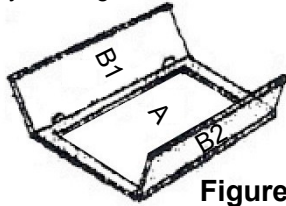
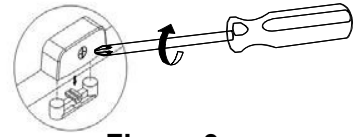
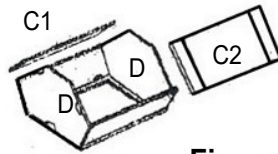

Figure 2
Figure 3
Figure 5
2. Installing the Front Side Panels (B1 & B2): Insert the right and left front side panels into the grooves of face frame (A) and align the cam lock connectors (Figure 2). Lock the cam lock with a screwdriver by turning the screw 180° clockwise (Figure 3)
4. Installing the Rear Side Panels B-2 (Figure 5) Position the rear side panels (C1 & C2) so that the panel connectors align to the top panel (D), bottom panel (D), and front side panels (B1 & B2). Gently work the panels into position. Make sure that it fits well and lock the cam lock connectors. (Figure 3)